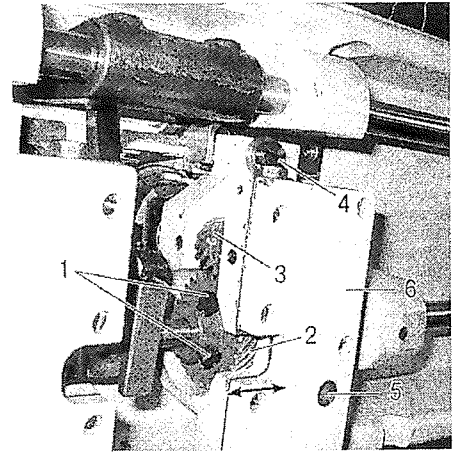

Fig.26
16. TIMING BETWEEN THE HOOK AND THE NEEDLE (Fig. 26)